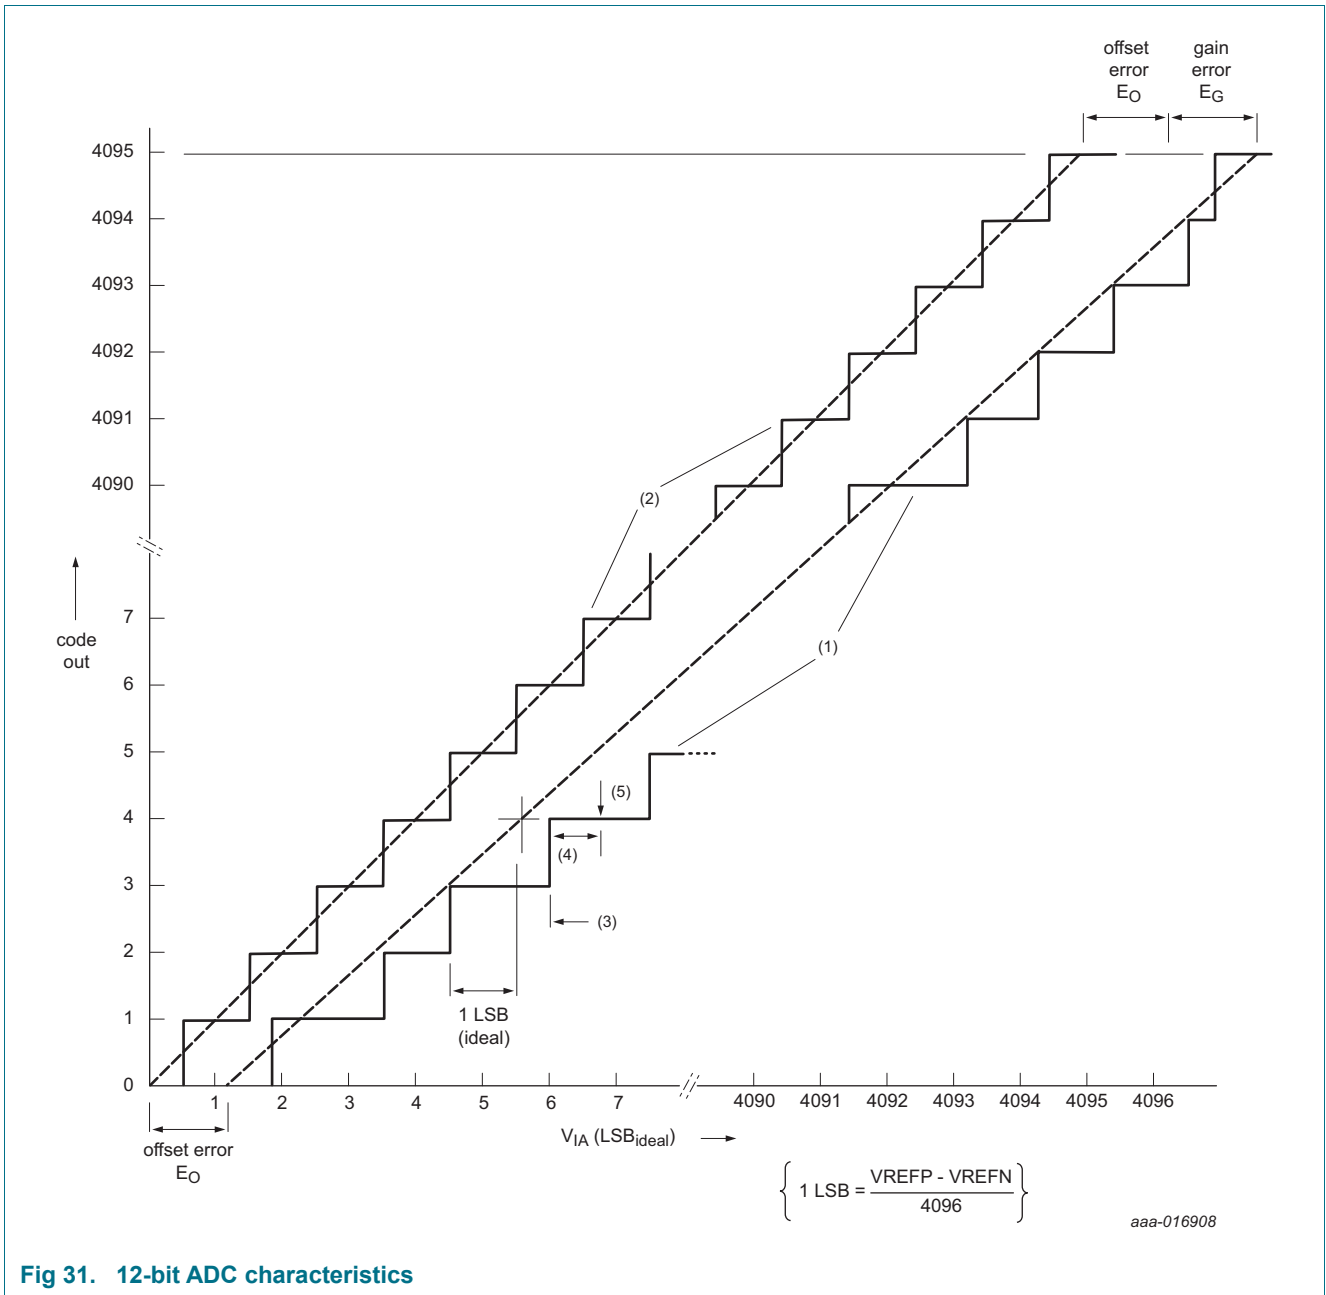

Fig 31. 12-bit ADC characteristics
- [1] The input resistance of ADC channel 0 is higher than for all other channels. See Figure 31.